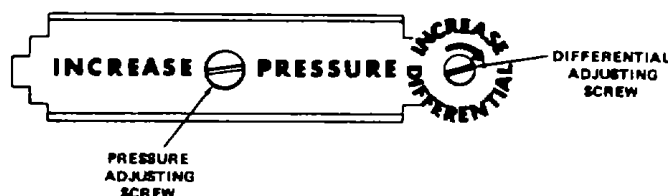

Figure 5-5. Pressure switch adjustment.
d. To decrease the difference between the CUT-IN and CUT-OUT pressure, turn the differential screw counterclockwise (fig. 5-5).